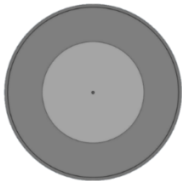

Figure 1: Color disc 2 mm
1. *Color disc* (Figure 1) to measure the color of the material before and after sterilization.